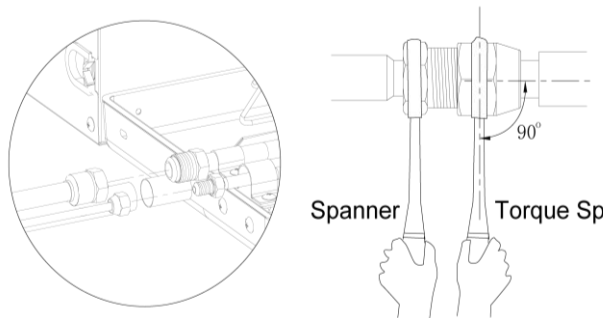

Fig.24
- (1) Conform to the following principles during piping connection: Connection pipeline should be as short as possible. The height difference between indoor and outdoor units should be as short as possible. Keep number of bends as little as possible. The radius of curvature should be as large as possible.
- (2) Weld the connection pipes between indoor and outdoor unit. Please strictly conform to the requirements for welding process. Rosin joints and pin holes are not allowable.
- (3) When laying the pipes, be careful not to deform them. The radius of bending parts should be more than 200mm. The pipes can not be repeatedly bent or stretched, otherwise the material will get harder. Do not bend or stretch the pipe over three times at the same position.
- (4) Please use a torque wrench to connect union nut on the indoor unit. See Fig. 24.